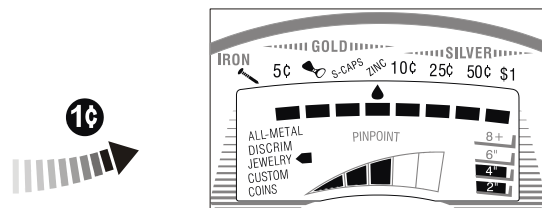

Fig14
- d) When sweep the other three samples, the response of the detector is the same with the ALL METAL mode.(See Figure.14,for example as 1 ¢ zinc coin)